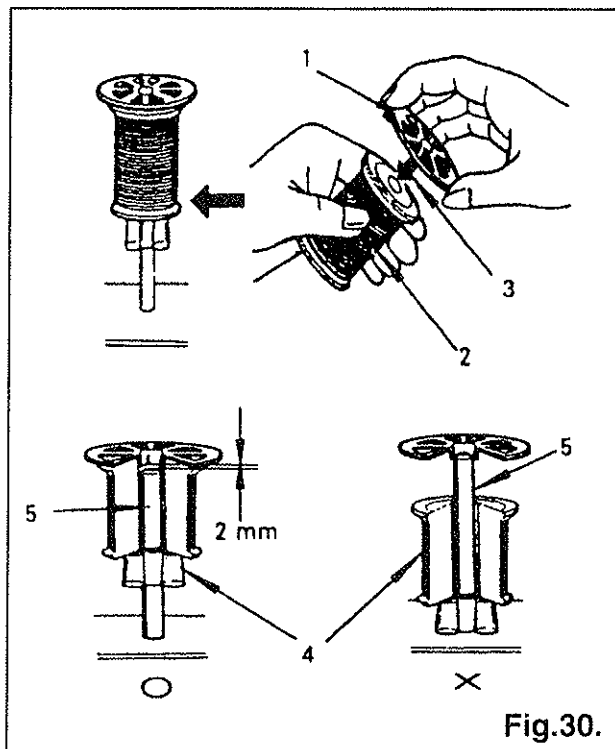

Fig.30.
When using a reel type thread spool, fit the spool cap (1) supplied with the machine onto the thread spool (3) (see Fig.30).
Set height of spool rest so there is approximately 2 mm clearance between top end of spool pin and the tip of the slotted spigot of the spool cap (see Fig.30).
The spool cap should never be fitted on the spool pin (5). Forcing it onto the spool pin may result in breaking the slotted spigot of the spool cap (see Fig.30).